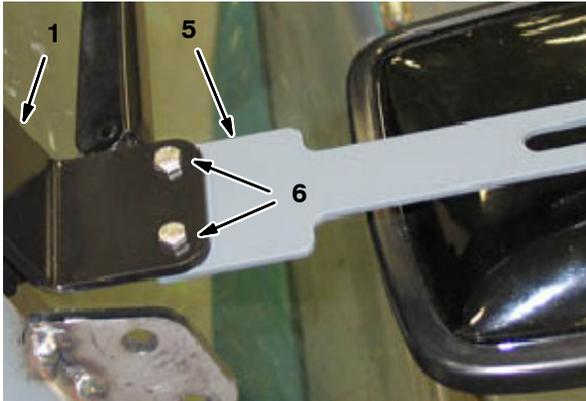
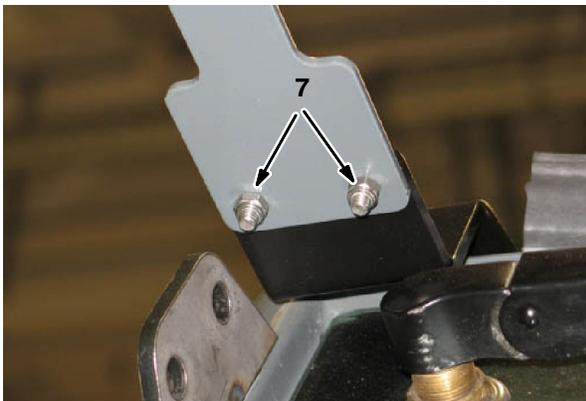

FIG. 6
FIG. 7
- Use two hex screws (6) and two hex nuts (7) to install the mirror bracket (5) onto the mirror mounting bracket (1). Refer to Fig. 6 and Fig. 7.